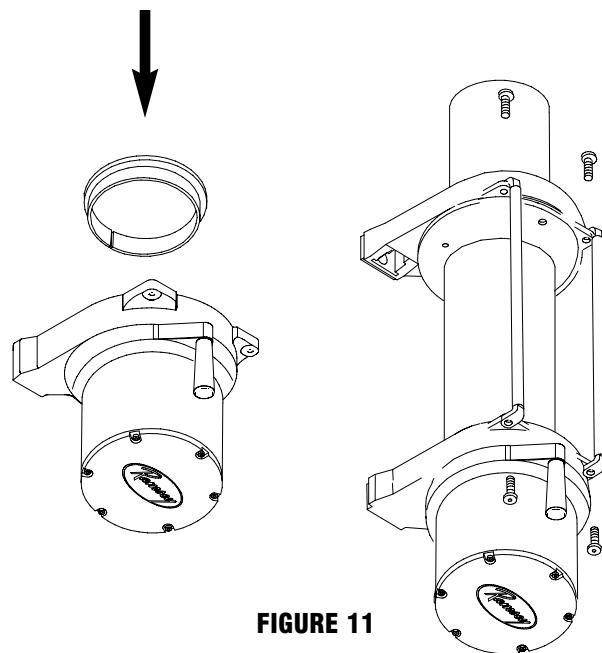

FIGURE 11
9. Place Gear Housing over the stacked gears, etc. that you removed in step 3. Gently work the housing over the stack, turning it as needed to mesh the planetary gears with the ring gear in the housing. Once they are all in the housing, flip the assembly over. Align the Gear Housing Cover and gasket with the holes in the ring gear. Replace the (6) capscrews that hold the Gear Housing Cover onto the Gear Housing. Tighten securely.
11. Turn the Gear Housing over and set it on the work bench with the Gear Housing Cover down. See Figure 11.